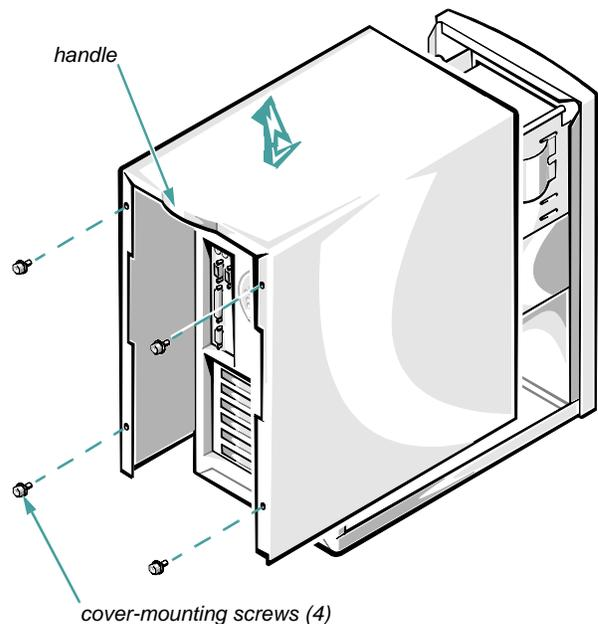

Figure 6-1. Removing the Computer Cover
2. **Remove the four cover-mounting screws that secure the cover to the chassis (Figure 6-1).**
3. **Slide the cover backward about one inch. Then grasp the front of the cover and the handle at the back of the cover, and lift it straight up off the chassis (Figure 6-1).**